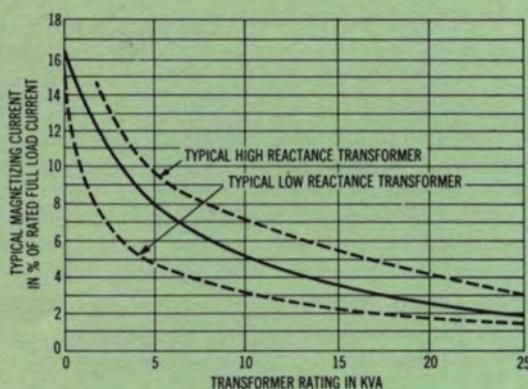

Fig. 7 — Typical Magnetizing Current Vs.
- (A) Determine (from manufacturer specifications or by measurements) the transformer KVA rating, and estimate whether it has a high, medium, or low reactance. (If the transformer is constructed so that the secondary windings are tightly coupled, electrically, to the primary windings, it will probably have a low reactance.)
- (B) Refer to Figure 7 and, using KVA rating and estimated reactance, choose the best estimate of % magnetizing current (% I_m).